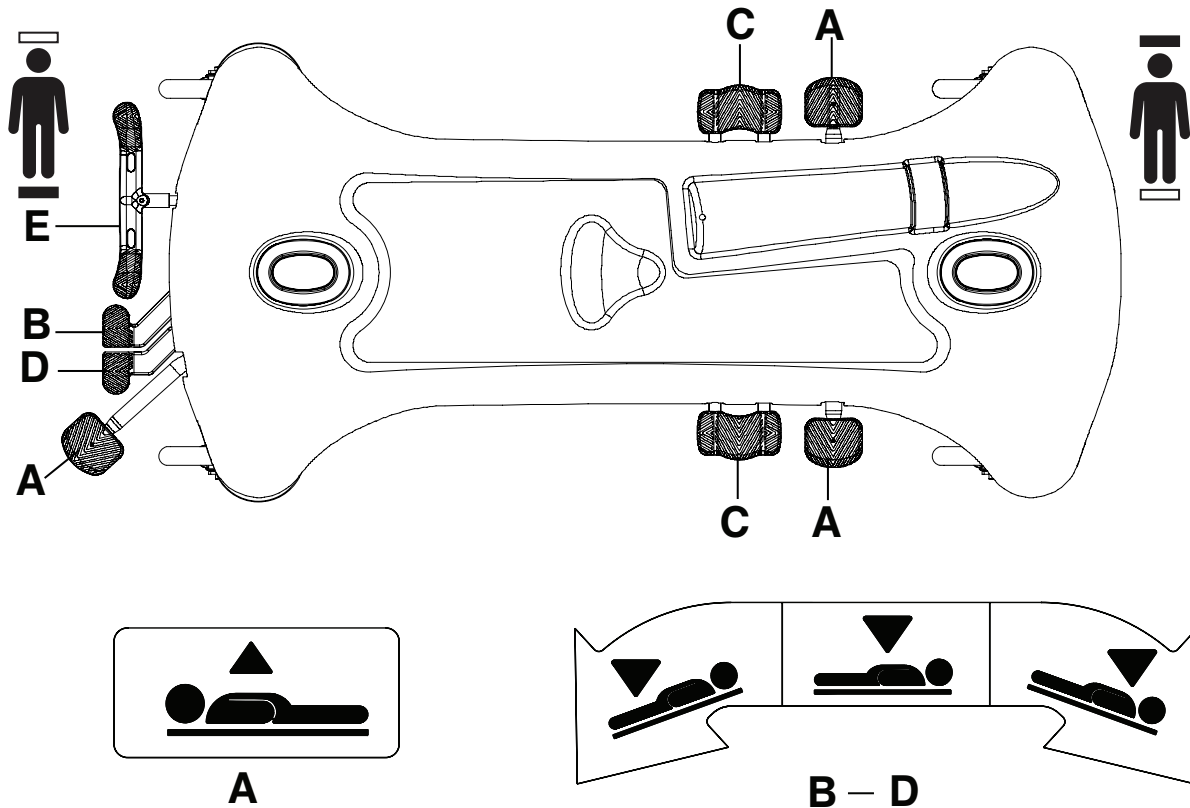

Figure 2 – Raising or lowering the litter
To raise the litter, press down on the pump pedal (A) until you achieve the desired height (Figure 2).
To lower the head end of the product, press down on the foot end release pedal (D) or press down on the side of the uni-lower pedal (C) closest to the head end until the litter is flat (Figure 2).
To lower the foot end of the product, press down on the foot end release pedal (B) or press down on the side of the uni-lower pedal (C) to the foot end (Figure 2).